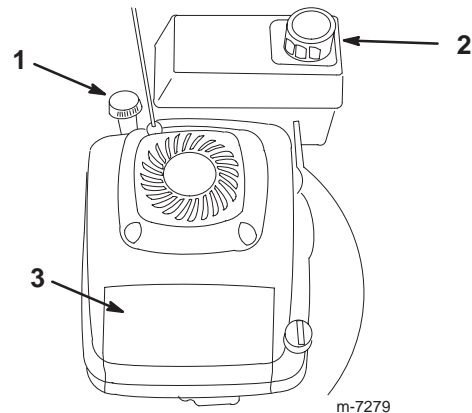

Figure 8
1. Clean around the fuel tank cap (Fig. 8).
2. Open the fuel valve (Fig. 8).
5. Pull the starter handle (Fig. 8) lightly until you feel resistance, then pull it sharply.